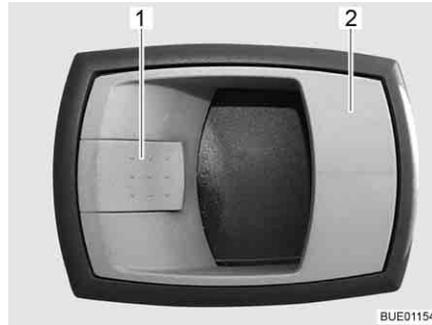

Fig. 30 Door lock of conversion door, inside
- Opening:* ■ Pull on the handle (Fig. 30,2). The door lock is unlatched.
- Locking:* ■ Press the locking lever (Fig. 30,1).